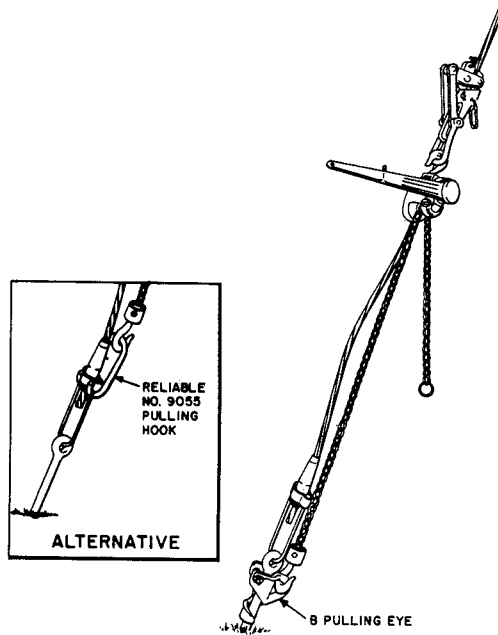

Fig. 28—Retensioning or Removing Guys
4.09 To retension a guy when it is terminated by means of Strandvises, apply tension until the section of strand between the chain hoist hooks is slack as illustrated in Fig. 28.